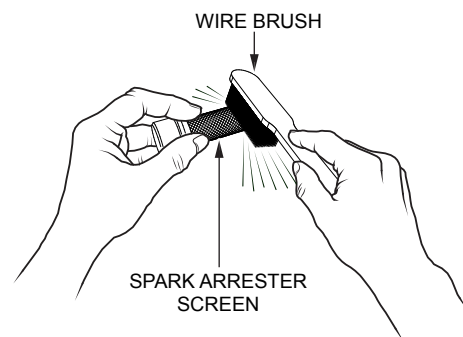

Figure 41. Cleaning the Spark Arrester
3. Carefully remove carbon deposits from the spark arrester screen (Figure 41) with a wire brush.